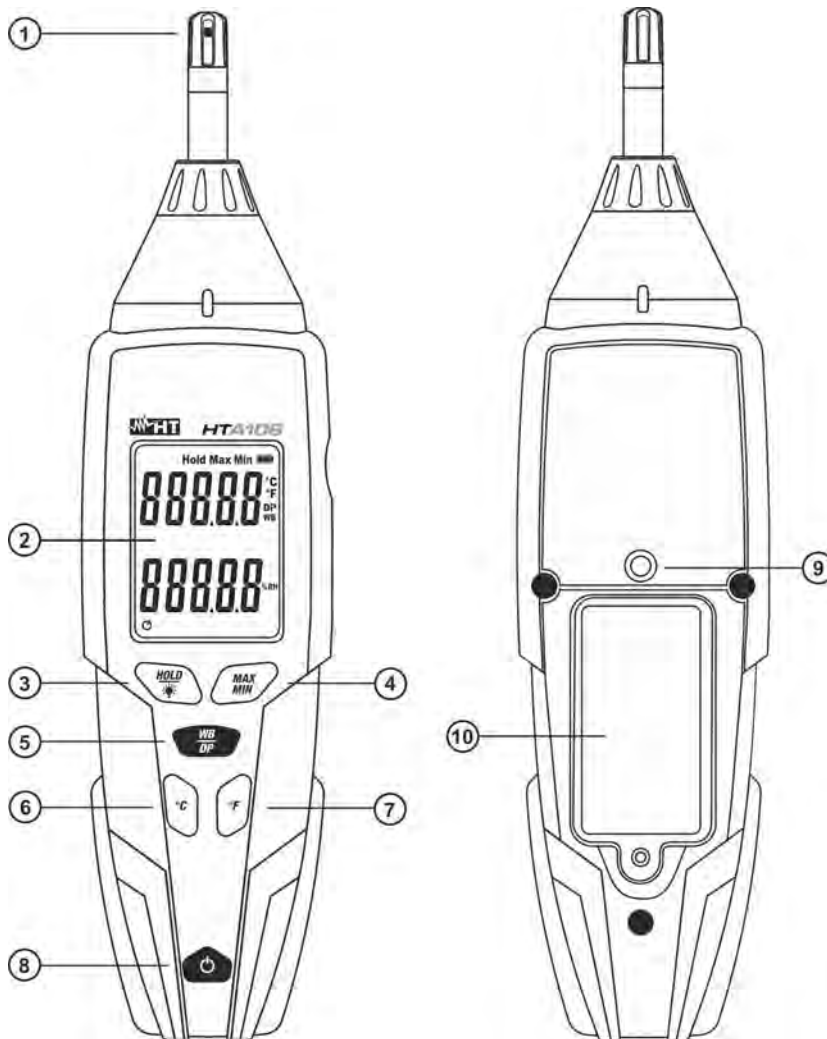
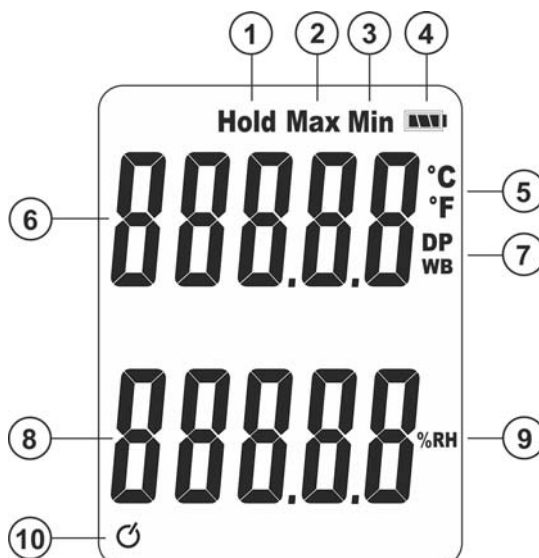

Fig. 1: Instrument description
Fig. 2: Display description
2. Press the **ON/OFF** key. The “☀” symbol (see Fig. 2 – part 10) disappears from display
3. Position the integrated sensor (see Fig. 1 – part 1) in the test area. The real-time temperature value is shown on the main display (see Fig. 2 – part 6) while the real time relative humidity value (% RH) is shown on the secondary display (see Fig. 2 - part 8). The "**OL**" value indicates that the maximum measurable values have been exceeded
2. Remove the battery cover (see Fig. 1 – part 10)